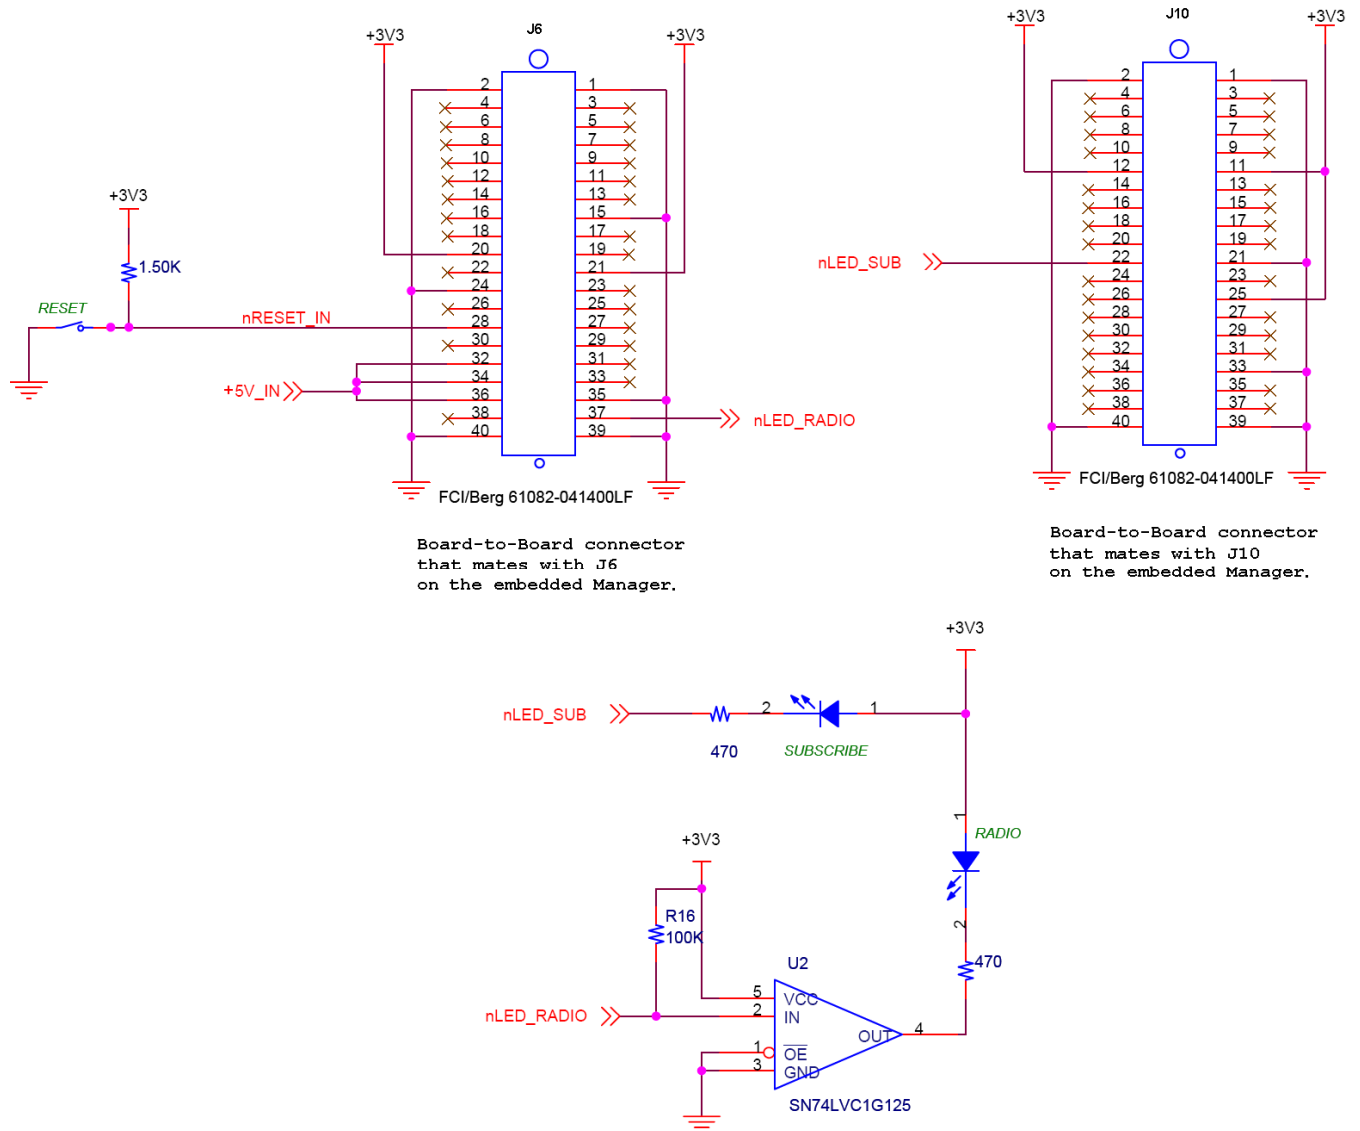

Figure 4 LED and Switch Application Circuit
- Figure 4 LED and Switch Application Circuit9